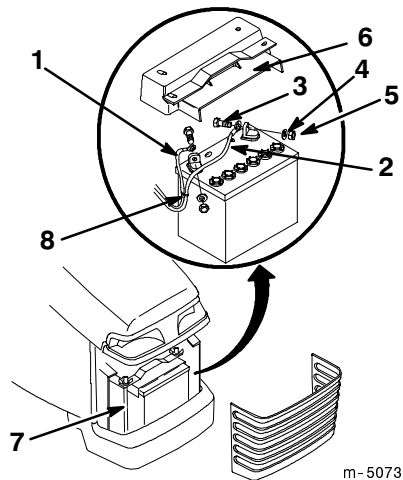

Figure 58
3. Remove the battery shield (Fig. 58).
4. Disconnect the negative (black) ground cable from the battery post (Fig. 58).
5. Disconnect the positive (red) cable from the battery post (Fig. 58).
1. Place the battery onto the chassis (Fig. 58).
2. Using the bolt, washer and locknut, connect the positive (red) cable to the positive (+) battery post (Fig. 58).
3. Using the bolt, washer and locknut, connect the negative (black) cable to the negative (-) battery post (Fig. 58).